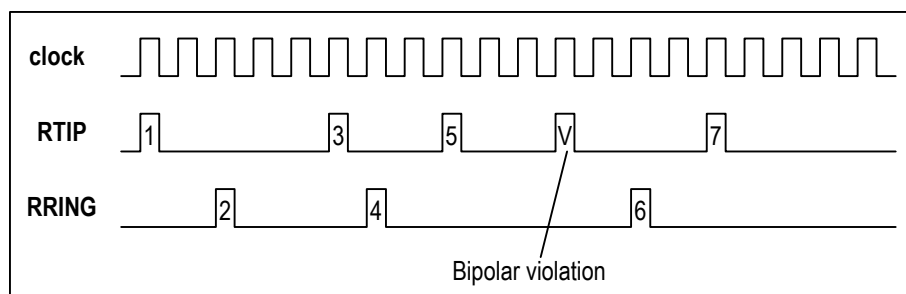

Figure 8. AMI Bipolar Violation Error
1. Bipolar Violation (BPV) Error: When AMI line code rule is used, the BPV error will be detected if two consecutive pulses are received with the same polarity (refer to Figure 8). The event of the Bipolar Violation (BPV) Error is forwarded to the Performance Monitor.
2. B8ZS Code Violation (CV) Error: When B8ZS line code rule is used, a CV error is detected when the received code does not match the standard B8ZS line code pattern (expect the Excessive Zero error).